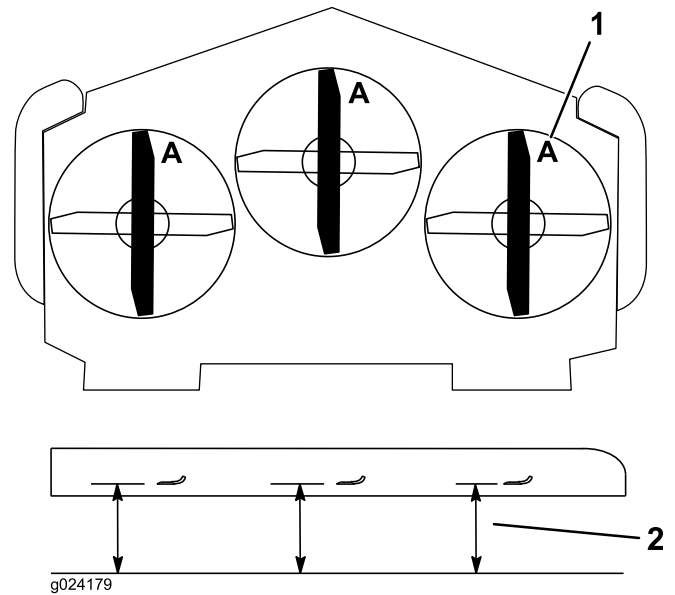

**Figure 90**
1. Inspect the cutting edges (Figure 90). If the edges are not sharp or have nicks, remove and sharpen the blades. Refer to Sharpening the Blades (page 62).
2. Inspect the blades, especially the curved area (Figure 90). If you notice any damage, wear, or a slot forming in this area (Figure 90), immediately install a new blade.